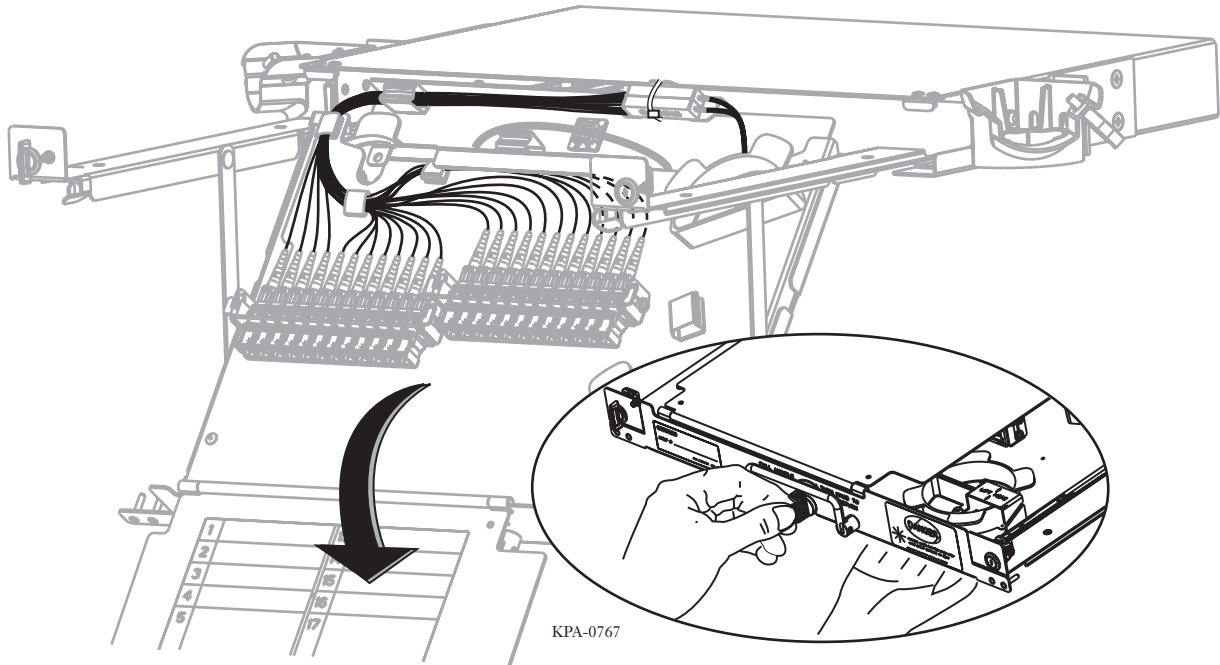

Figure 3 — Lower the Drawer
Step 1: Remove connector from the rear of the adapter (Figure 3), insert connector into attenuator, then insert attenuator into the adapter.
- Step 1:** With one hand beneath the drawer, turn the plunger actuator knob to release the plungers holding the drawer (Figure 3).